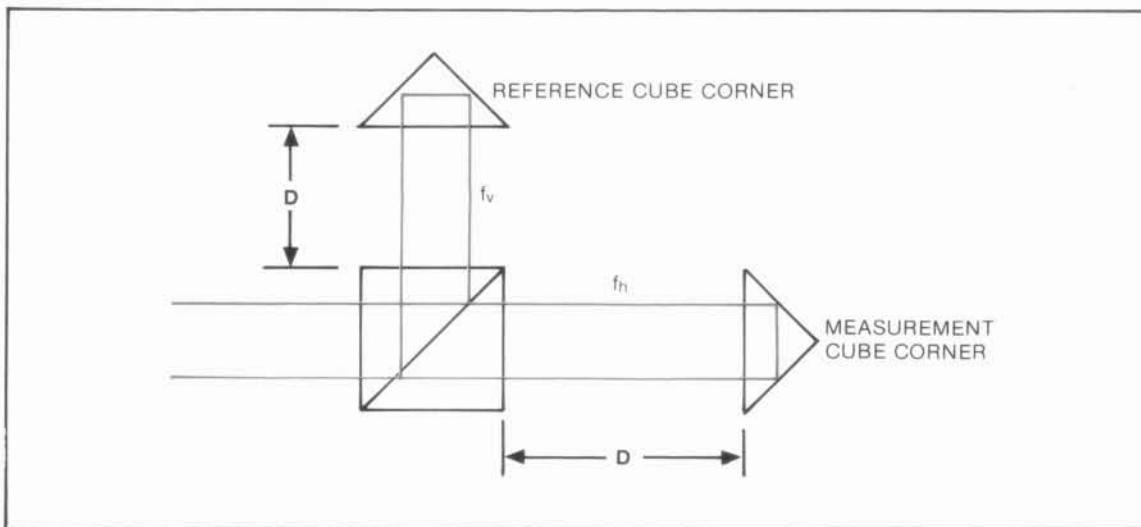

Figure 5-16. Equal Path Length Corrections
- Equalize the path lengths of F_v and F_h , thereby reducing deadpath error, by moving the reference cube-corner a distance "D" from the interferometer (See Figure 5-16). Assuming the atmospheric conditions are equivalent and the distances between the cube-corners and the interferometer are equal, this configuration would not have deadpath errors due to unequal path lengths. Care must be taken when using this method of reducing deadpath because any drift in the position of the reference cube-corner will also show up as a measurement error. This drift can occur from non-rigid mounting and thermal expansion, for example.